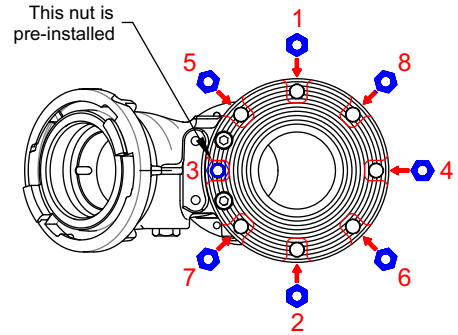

Figure 4.2.3
When Side A option F is specified, the 4" ANSI 150 Flange Inlet Adapter is pre-installed on side A of the Booster. Eight 5/8-11 x 3" bolts, thick washers, and nuts are supplied. One of the nuts and an O-ring seal are pre-installed between the Inlet Adapter and Booster body. To install the Booster on a 4" ANSI 150 flange, refer to Figure 4.2.3 and the instructions below.
2. Slide (7) 5/8-11 nuts into the notches on the outside of the Flange Adapter. Washers are not necessary under these nuts. The close fit achieved by the notches and hole diameters results in sufficient load bearing area without washers.
3. Slide thick washers over 5/8-11 x 3" bolts. Slide (8) bolts through flanges and tighten into nuts until snug against mating flange. To prevent damage, verify that no bolt ends are close to contacting the Booster body. If they are close, then stack additional thick washers under the bolt heads or substitute studs with nuts. Stainless steel hardware is recommended.
4. Tighten (8) bolts or studs to 76-80 ft-lb (100-110 N-m) torque in the alternating sequence shown in Figure 4.2.3. Tighten at graduated intervals of 30%, then 60%, and finally 100% of the specified torque.